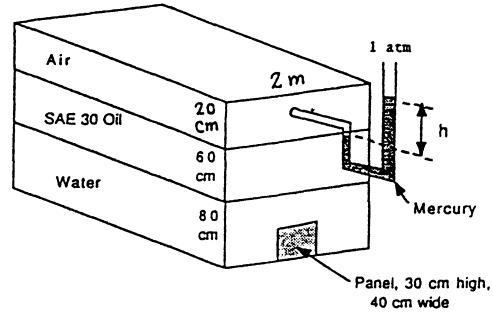

Fig. P2.80
**2.80** For the closed tank of Fig. P2.80, all fluids are at 20°C and the air space is pressurized. If the outward net hydrostatic force on the 40-cm by 30-cm panel at the bottom is 8450 N, estimate (a) the pressure in the air space; and (b) the reading  $h$  on the manometer.